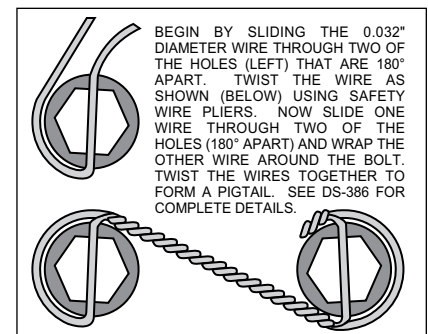

Figure 4. Safety Wire Diagram
- Slide the bracket kit assembly (1) onto the housing flange and then insert the axle assembly through the center hole of the bracket kit assembly (1). Secure using the stock Original Equipment Manufacturer (OEM) bolts and nuts. Stock OEM hex nuts that retain the bracket kit assembly (1) should be on the wheel side of the bracket. Apply red *Loctite*® 271 to the stock OEM bolt threads and torque to OEM specifications. Make sure the bracket kit assembly (1) brake pads are FACING OUTWARD TOWARDS THE WHEEL.
- With the larger I.D. side of the rotor (3) facing away from the hat (2), bolt rotor (3) to hat (2) through the backside of the rotor using washers (4) and bolts (5). Using an alternating sequence, apply red *Loctite*® 271 to the threads and torque bolts to 155 **in-lb**. For an added measure of security, the bolts may be safety wired using standard 0.032 inch diameter stainless steel safety wire as shown in Figure 4. Please refer to Wilwood's data sheet DS-386 (available at www.wilwood.com/Pdf/DataSheets/ds386.pdf) for complete safety wire installation instructions.